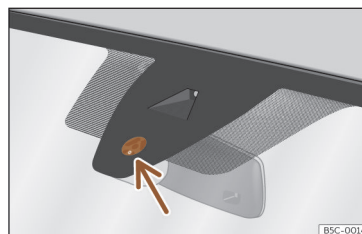

Fig. 103 Rain sensor sensitive surface
Possible causes of faults and mistaken readings *on the sensitive surface* »» Fig. 103 of the rain sensor include:
- Regularly clean the sensitive surface of the rain sensor »» Fig. 103 (arrow) and check for possible damage to the wiper blades.